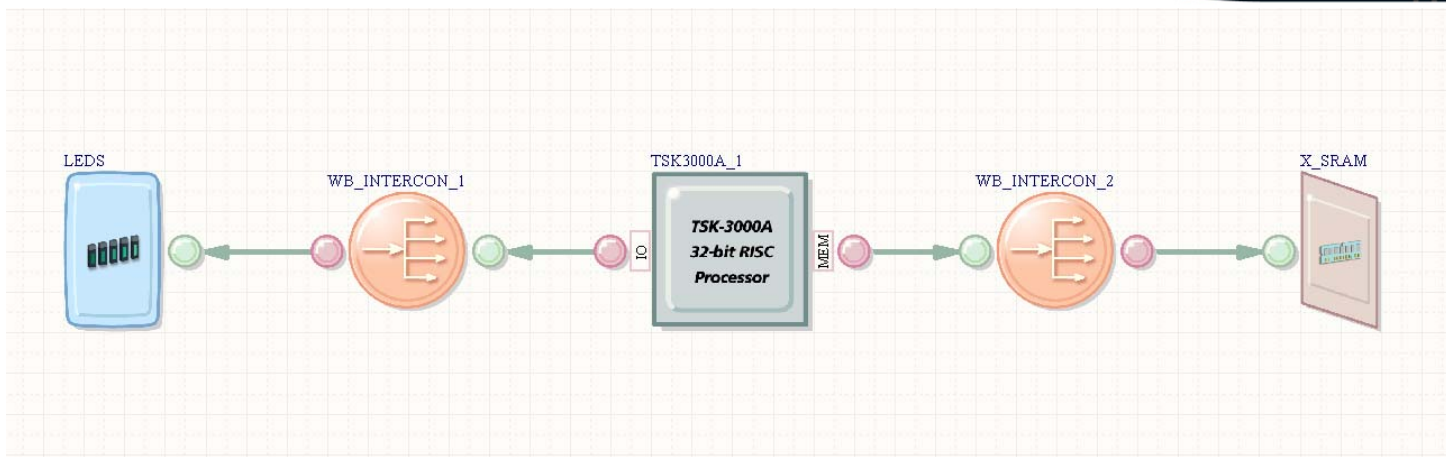
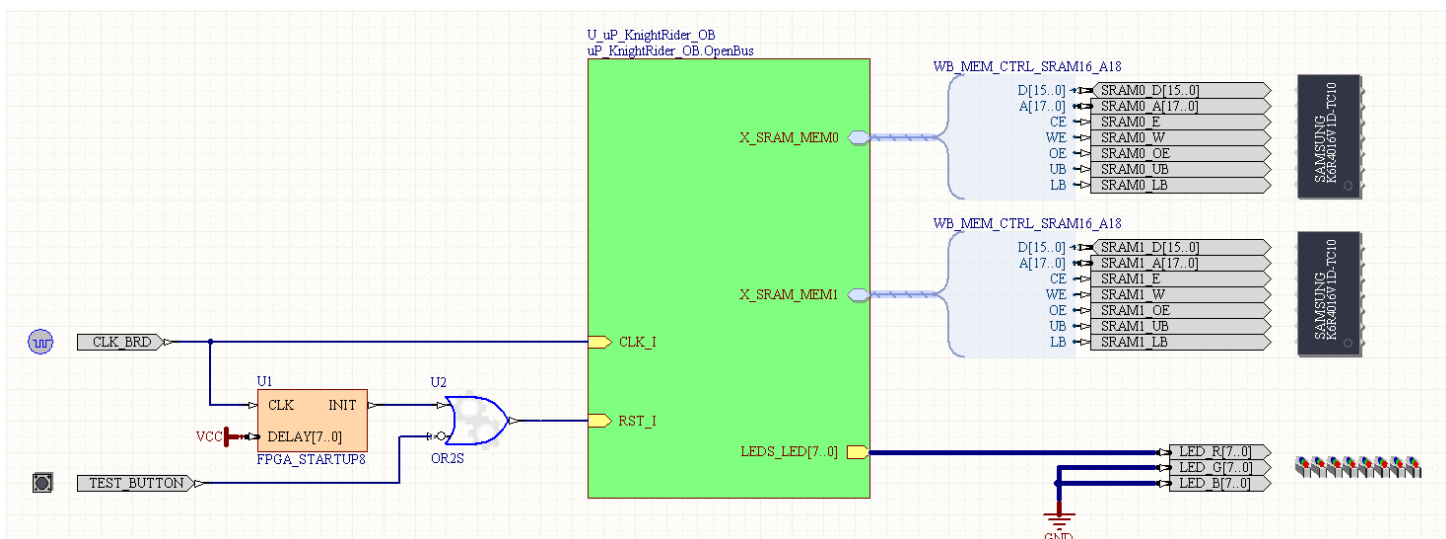
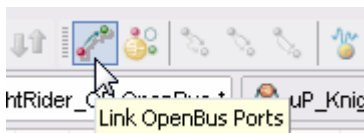

Figure 1. OpenBus document for the uP_KnightRider design.
Figure 2. Schematic top sheet for the uP_KnightRider design.
Figure 3. OpenBus ports are linked by running the Link OpenBus Ports command.
This exercise uses the components listed in Table 1, to create the circuits shown in Figure 1 and Figure 2.
10. Arrange the OpenBus components as shown in Figure 1. Note that you can rotate an OpenBus component while moving it by pressing the **Spacebar**. The OpenBus Ports (the smaller green or red circles on each component) can also be dragged to change their position, note that there must be a Master (green) port adjacent to each Slave (red) port.
11. To connect the ports on the OpenBus components, select the **Place»Link OpenBus Ports** command, or click the button on the toolbar, as shown in Figure 3. Click once on the Master (green) port, then click on the appropriate Slave (red) port, to connect the ports as shown in Figure 1. You can also wire in the reverse order, clicking on the slave and then the master port, Altium Designer will automatically detect the port relationships and set the direction correctly.
24. Place the following components onto the schematic, arranging them approximately in the positions shown in Figure 2: